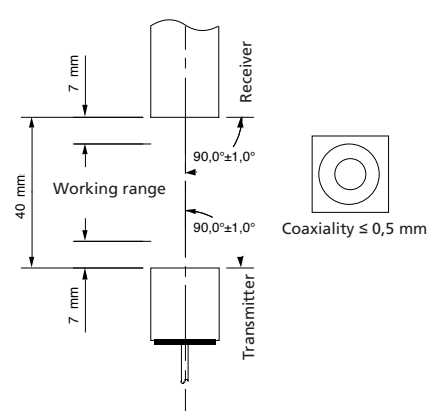

Fig. 4: Installation and working range
- Install the transmitter and receiver facing each other 40 mm ± 3 mm apart (see fig. 4). Installation of the dbk is not dependent on the position.